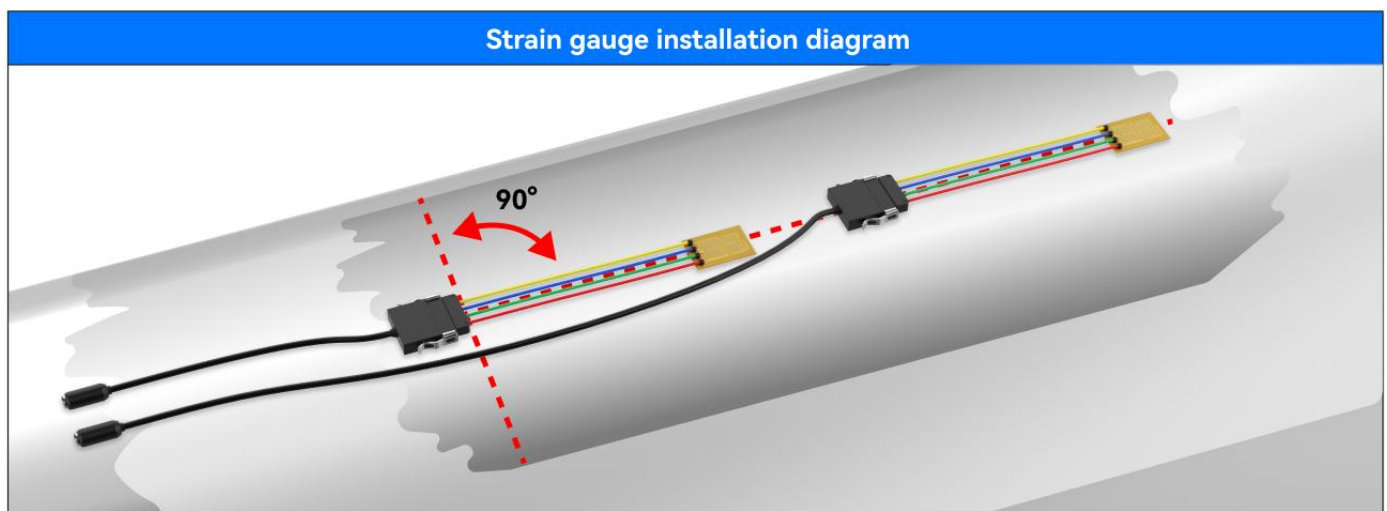

Figure 3.19
1. The strain gauge is mounted on the axis of the shaft, as shown in Figure 3.19, so that it is protected when the transmitter is covered. The polishing lines you created in stage 4.3 will help achieve the correct alignment of the strain gauge.